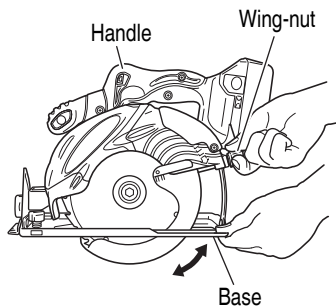

Fig. 6
If the wing nut to adjust cutting depth (Fig. 6) is loose, injury can result. Make sure that it is tightened securely.
1. Adjusting the cutting depth (Fig. 6)